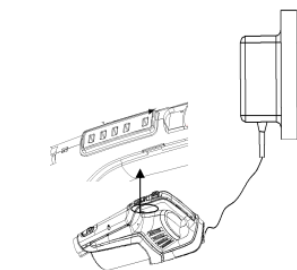

Fig.21
4. Unplug power adaptor after battery is fully charged. (Fig. 21).